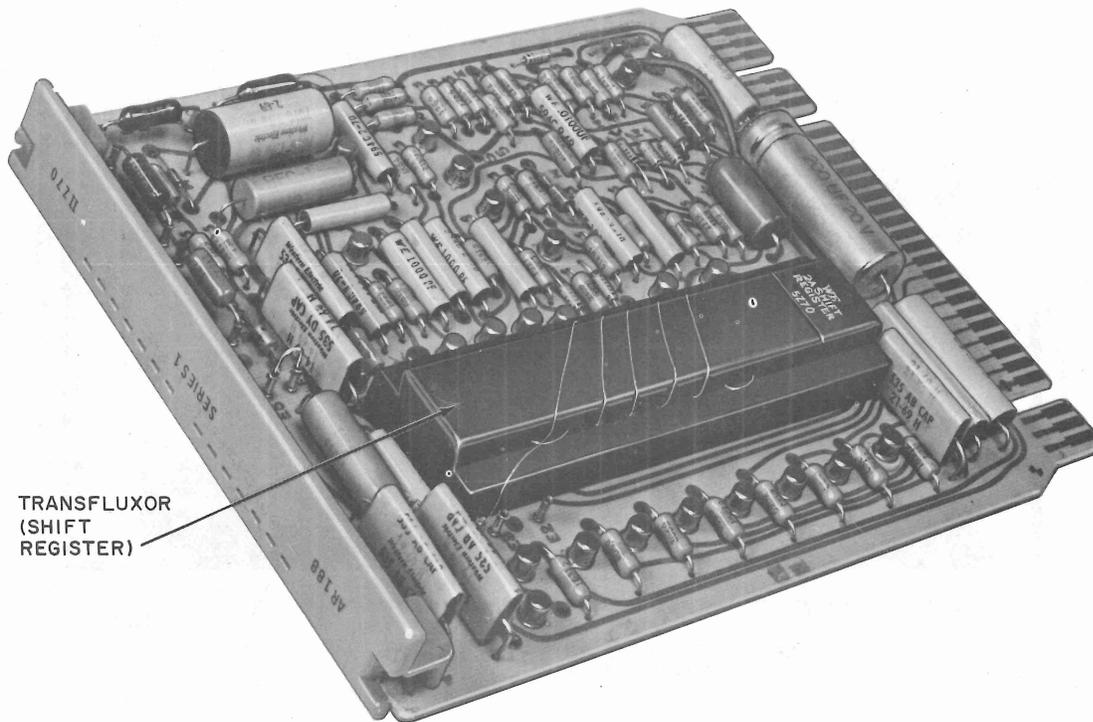

Fig. 4—AR188 CP Showing an Encoded Transfluxor Shift Register Before Insulating Tape Has Been Added to Top of Shift Register
3.01 The AR188 CP (Fig. 4) is discretely encoded (SCC) by the telephone company (Telco) employee so the station can recognize that it is being polled by the computer switcher.